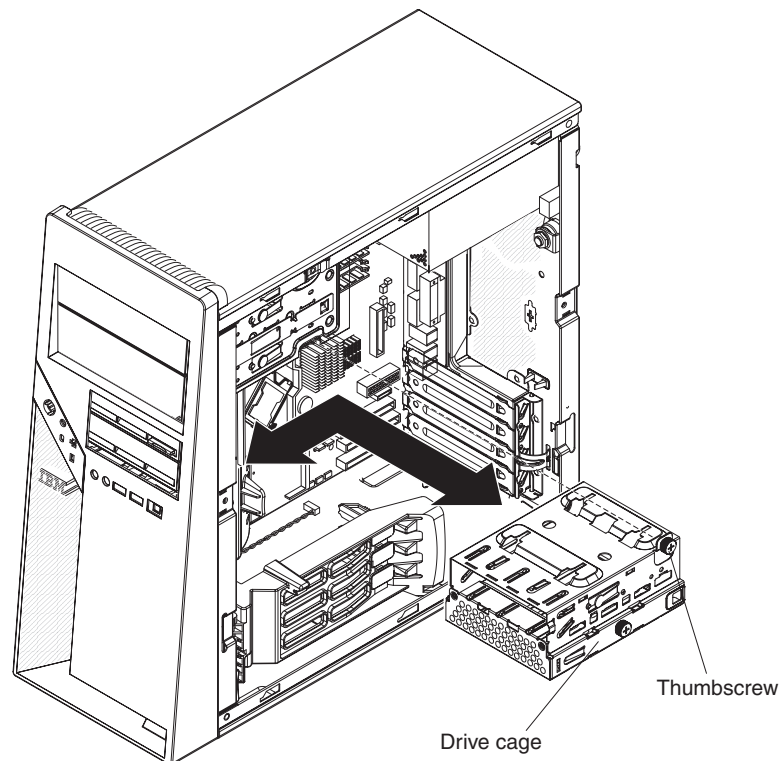

Figure 26. Installing the drive cage
5. Reinstall the drive cage if it was removed (see Figure 26).